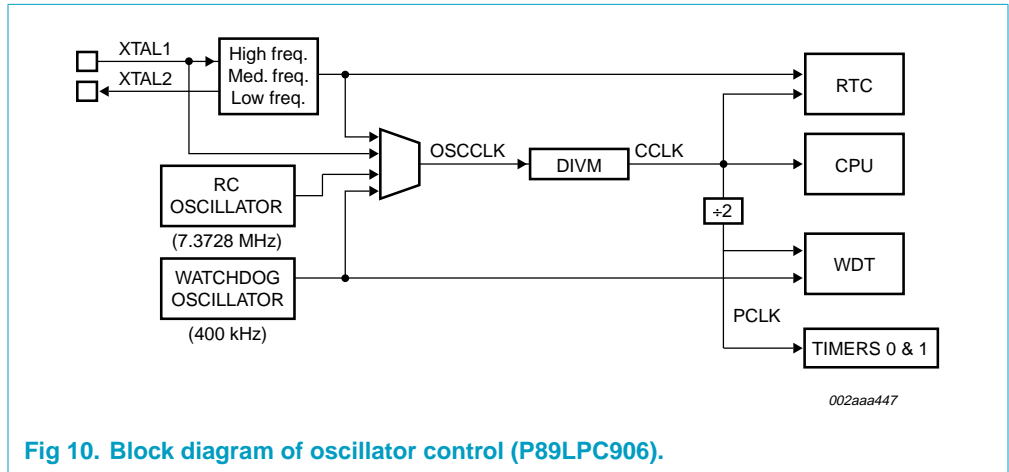

Fig 10. Block diagram of oscillator control (P89LPC906).
**OSCCLK** — Input to the DIVM clock divider. OSCCLK is selected from one of the clock sources (see Figure 10 and 11) and can also be optionally divided to a slower frequency (see Section 8.7 “CPU CLOCK \(CCLK\) modification: DIVM register”).